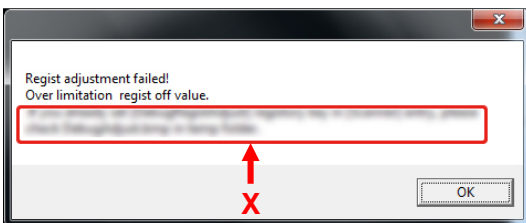

Figure 5-208
- 7) If an abnormal value is detected during the adjustment because of contamination or marks on the registration adjustment sheets, the screen shown in Figure 5-208 appears. Clean the reading glass, change the registration adjustment sheets to clean ones, and repeat adjustment.